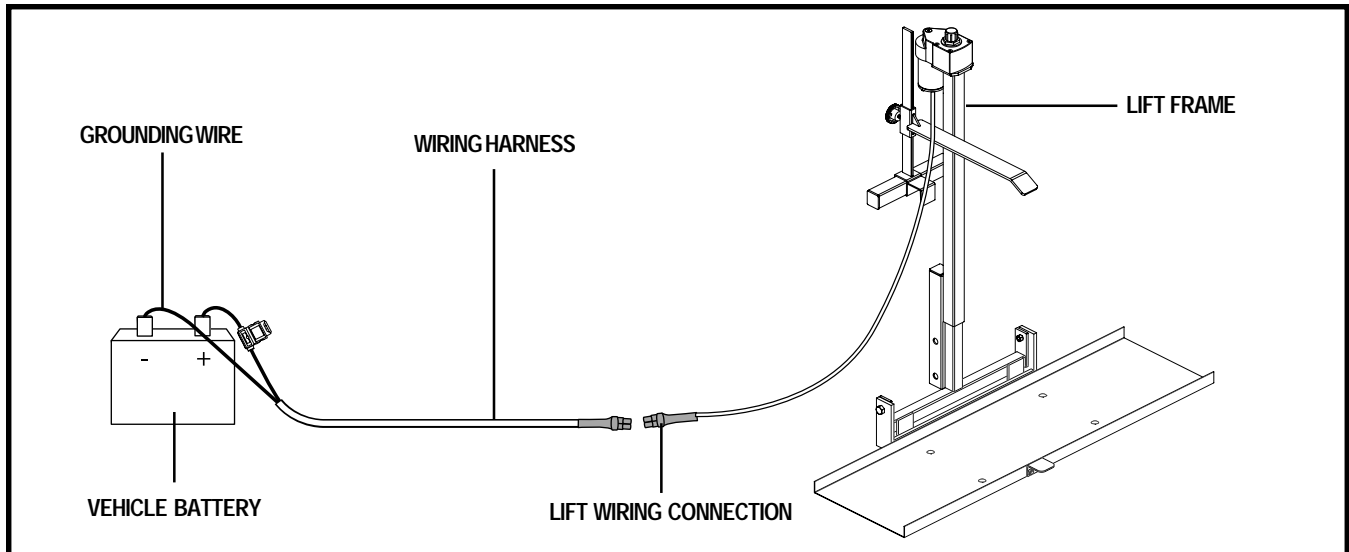

Figure 5. Wiring Harness Installation
1. Route the lift system wiring harness (starting at the lift) through the interior of the vehicle until you reach the automobile battery. See figure 5. You will typically find pass through points at the rear lighting assemblies, which will enable you to route the cable through the trunk and under the back seat.